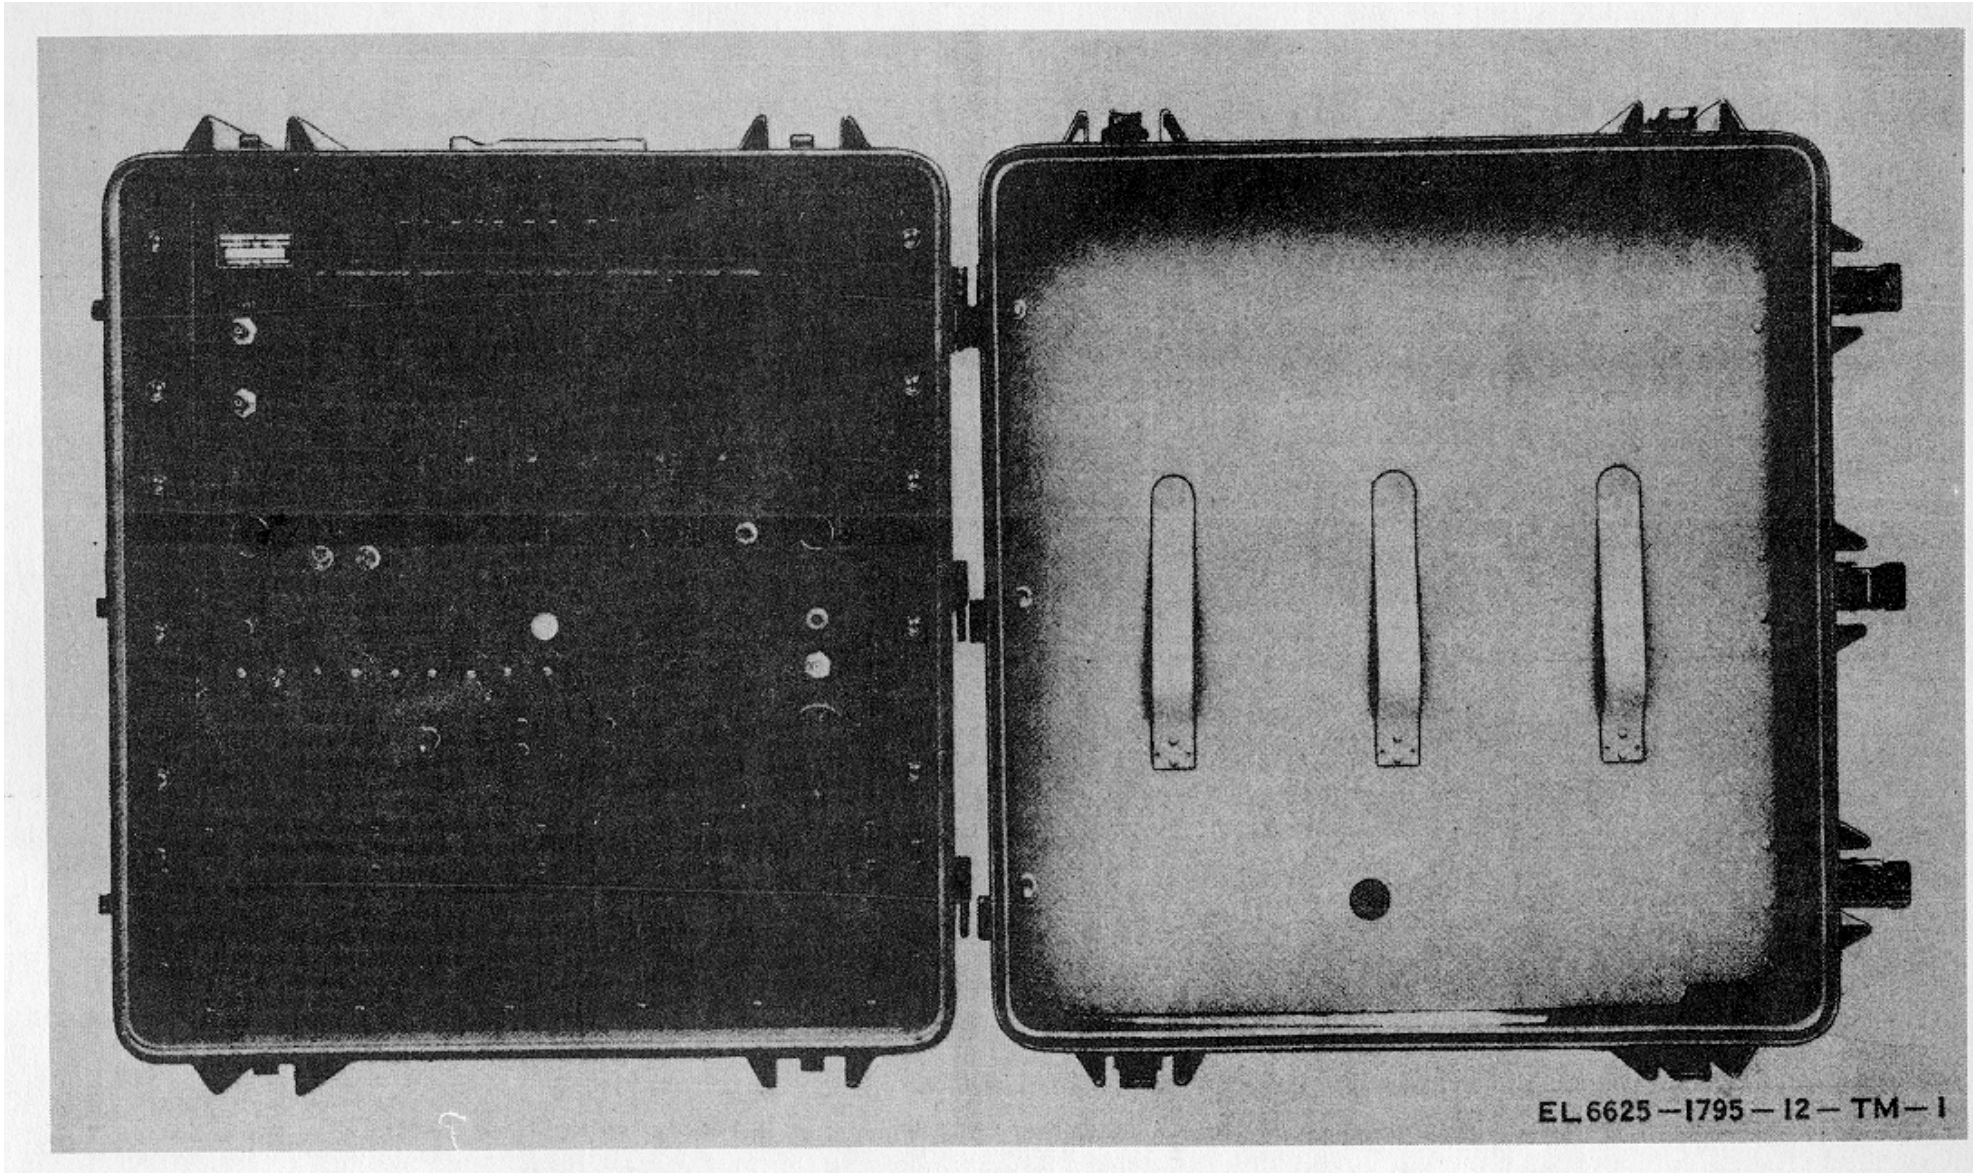

Figure 1-1. Test Set, Radar Altimeter Module AN/APM-322.
a. This manual describes Test Set, Radar Altimeter Module AN/APM-322 (module test set) (figs. 1-1 and 1-2) and covers its installation, operation, and organizational maintenance. Included are instructions for operation under usual and, unusual conditions, cleaning, inspection, troubleshooting, and replacement of assemblies available to the operator and organizational technician. The maintenance allocation chart is included as Appendix B.